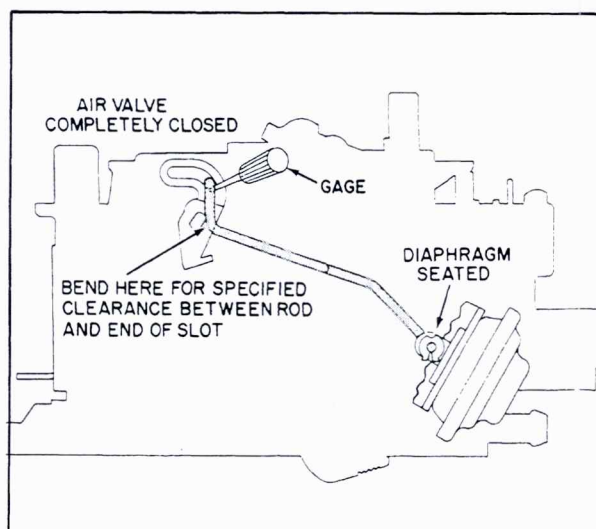

Fig. 6-80 Air Valve Adjustment
83. Air Valve Dashpot Adjustment (Fig. 6-80)
2. Bend rod at air valve end, Fig. 6-80, to adjust.